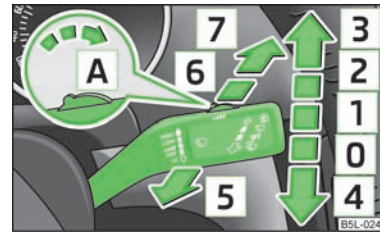

Fig. 36
- If the slower [2] » Fig. 36 or the faster [3] wiper setting is switched on and the vehicle speed decreases to below 4 km/h, the lower wiper step is switched on automatically. At a speed increase of more than 8 km/h the previous wiper setting is established again.
- If you only wish to wipe the windscreen **briefly**, push the lever into the spring-tensioned position [4] » Fig. 36. If the lever is held in the lower position for more than 1 second, the wiper wipes faster.
If the windscreen wiper is in position **2** » Fig. 36 or **3** the rear window is wiped every 30 or 10 seconds if the vehicle's speed exceeds 5 km/h.
- Push the operating level into the position **6** » Fig. 36 five times in succession within 5 seconds.
The headlights are being cleaned after the windscreen has been sprayed for the first time and fifth time, the low beam or main beam are switched on and the windscreen wiper lever was held in the position **5** » Fig. 36 for about 1 second.
- › Then press the windscreen wiper lever into position **4** » Fig. 36 within 10 seconds - the wiper arms move into the service position.